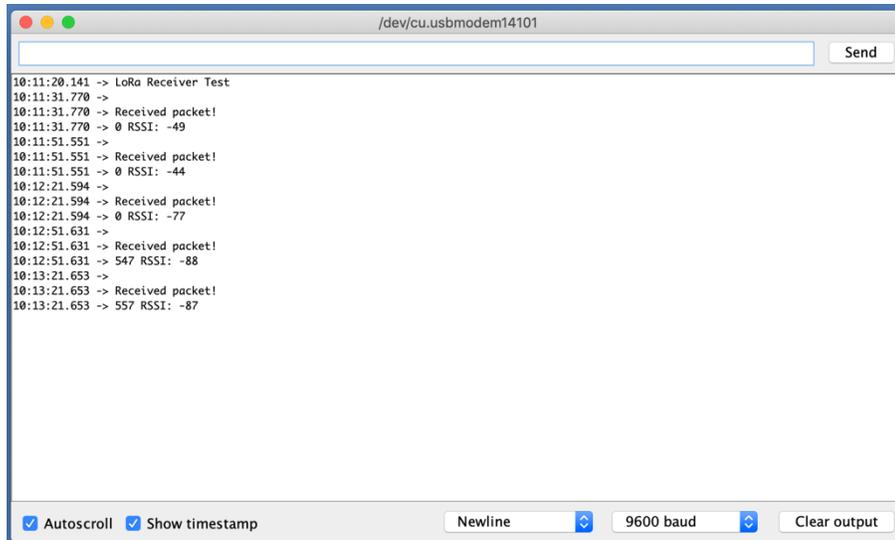

Figure 26: Arduino Serial Monitor showing received packet values
10. Check the Serial Monitor. If all is well, we will see received packets being logged out every 30 seconds. This means the receiving node is receiving the packets from the broadcasting node (Figure 26).